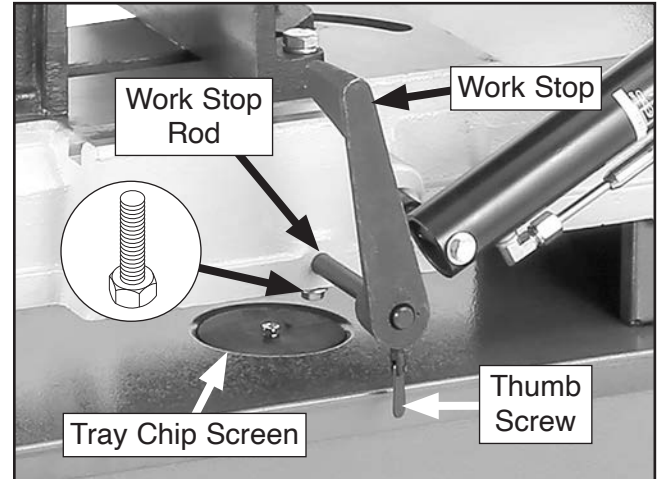

Figure 24. Work stop installed and location of tray chip screen.
14. Loosen hex bolt (see **Figure 24**) enough to insert work stop rod through hole in vise base.
16. Loosen thumb screw on work stop so you can slide work stop over rod, then tighten screw to secure (see **Figure 24**).
17. Push one end of drain tube onto bung on underside of tray chip screen (see **Figure 24**), then position opposite end in cutting fluid system tank, as shown in **Figure 25**.